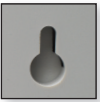

Figure 2
- 3. Carefully position the gel warmer so the large round wells (see Figure 2) on the back of the unit will pass over the screw heads.